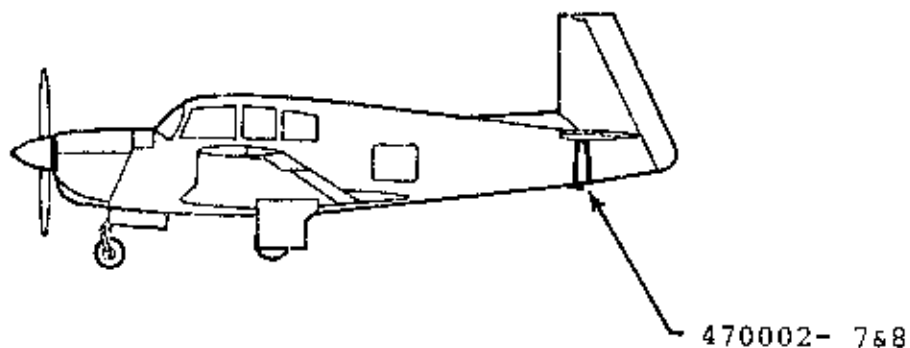

FIGURE 1
- 1) Remove 470002-7 and -8 fairings (Figure 1).
- 7) Install 470002-7 and -8 fairings (Figure 1).